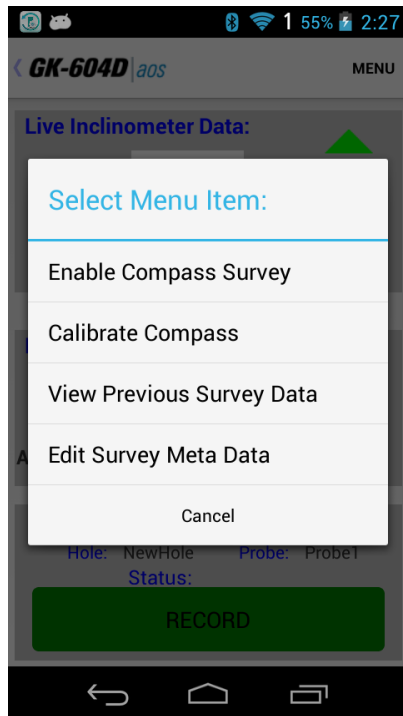
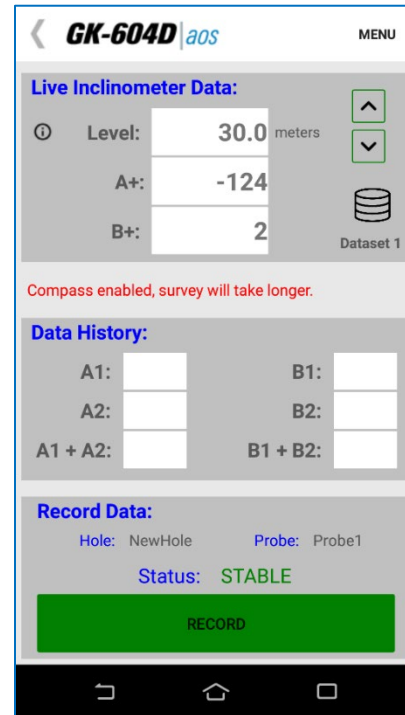

Figure 106 - Live Readings Menu Options
Figure 107 - Compass Enable Message
- 6) Tap “MENU” on the live reading screen to display the menu shown in Figure 106. Tapping “Enable Compass Survey”, will enable the compass survey option and cause the message shown in Figure 107 to be displayed. An inclinometer survey with the compass enabled will take approximately 30% longer.